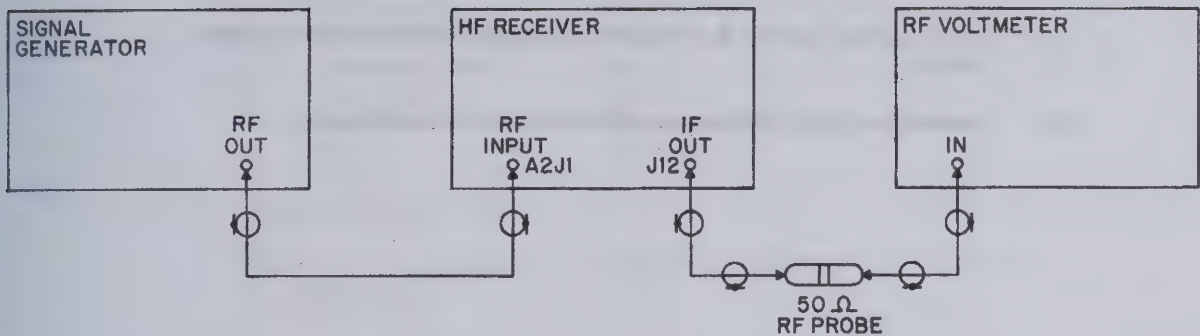

Figure 4-2. IF Gain and Bandwidth Performance, Test Setup
1. Connect the test equipment to receiver as shown in Figure 4-2.